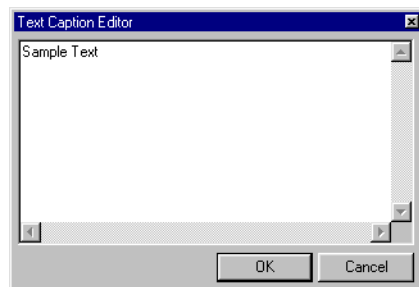

Figure 5-1 Text Caption Editor dialog box
- 3 In the *Text Caption Editor* dialog box (Figure 5-1), enter the desired text string. If multi-line text is required, press ENTER to start a new line of text.